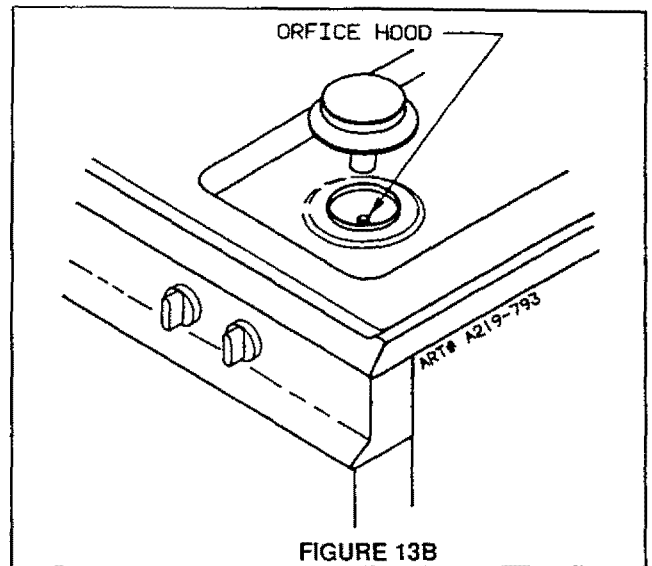
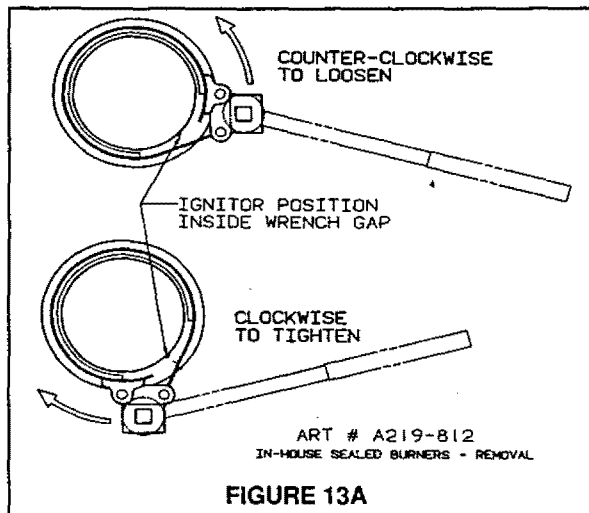

FIGURE 13B
FIGURE 13A
- a. Place burner wrench (part no. 8002P026-60, available from your dealer or authorized service agency*) over surface burner assembly with ignitor positioned inside gap in wrench ring (figure 13A). This prevents ignitor from being crushed when wrench tightens on burner assembly. Rotate burner assembly approximately one-eighth turn counter-clockwise and lift from main top (figure 13B). Using a 1/2" deep-well socket, tighten each burner orifice hood approximately two complete turns clockwise TO THE CLOSED POSITION. Replace burner assembly in main top and rotate approximately one-eighth turn clockwise using burner wrench until burner locks into position with ignitor facing rearward.
- a. Place burner wrench (part no. 8002P026-60, available from your dealer or authorized service agency*) over surface burner assembly with ignitor positioned inside gap in wrench ring (figure 13A). This prevents ignitor from being crushed when wrench tightens on burner assembly. Rotate burner assembly approximately one-eighth turn counter-clockwise and lift from main top (figure 13B). Using a 1/2" deep-well socket, loosen each burner orifice hood approximately two complete turns counter-clockwise. Replace burner assembly in main top and rotate approximately one-eighth turn clockwise using burner wrench until burner locks into position with ignitor facing rearward.